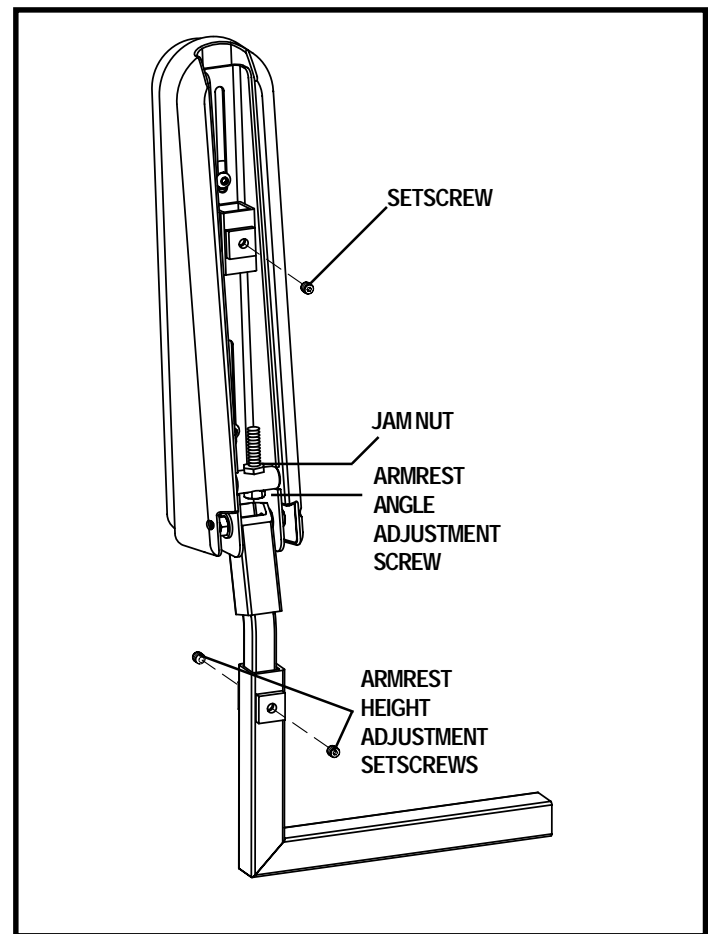

Figure 13. Armrest Angle and Height Adjustment
2. Loosen the setscrew on the controller bracket. See figure 13.
3. Flip up the armrest and loosen the setscrew. See figure 13.
1. Lift the armrest straight up so that it is perpendicular to the floor. See figure 13.
1. Loosen the setscrews on the armrest. See figure 13.